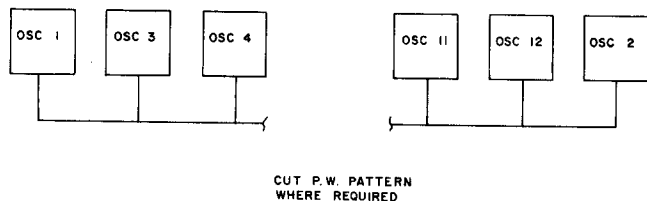

Figure 2 - Block Diagram
3. Assemble oscillators #3 through #12 on the system board according to Figure 2, Oscillator Module Installation. Refer to the System Board Maintenance Manual Table of Contents for MULTI-FREQUENCY MODIFICATIONS.
4. Figure 2 - Block Diagram shows how the oscillators are connected to the front ends. In the standard Multi-Frequency Option F1 selects oscillator #1 and F12 selects oscillator #12. F1 or any of the frequency positions can be re-connected to any of the oscillators positions by plugging the plug from the desired frequency position onto the jack of the desired oscillator position.